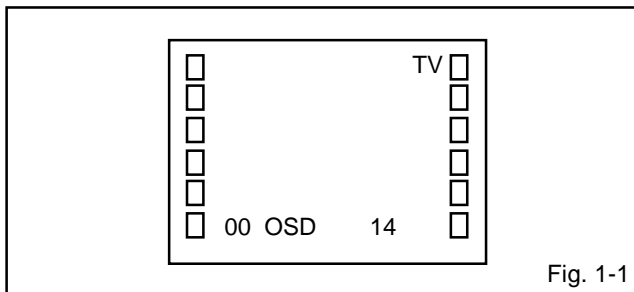

Fig. 1-1
Press the VOL. DOWN button on the set and the Channel button (9) on the remote control for more than 2 seconds to appear the adjustment mode on the screen as shown in Fig. 1-1.
4. Activate the adjustment mode display of Fig. 1-1 and press the channel button (01) on the remote control to select "CUT OFF".
4. Activate the adjustment mode display of Fig. 1-1 and press the channel button (10) on the remote control to select "R.BIAS".
3. Activate the adjustment mode display of **Fig. 1-1** and press the channel button **(06)** on the remote control to select "V. SIZE".
3. Activate the adjustment mode display of **Fig. 1-1** and press the channel button **(05)** on the remote control to select "H.PHASE".
3. Activate the adjustment mode display of **Fig. 1-1** and press the channel button **(17)** on the remote control to select "CONT MAX".
8. Activate the adjustment mode display of **Fig. 1-1** and press the channel button **(17)** on the remote control to select "CONT MAX".
1. Activate the adjustment mode display of **Fig. 1-1**.
3. Activate the adjustment mode display of **Fig. 1-1** and press the channel button **(13)** on the remote control to select "BRI CENT".
4. Activate the adjustment mode display of **Fig. 1-1** and press the channel button **(19)** on the remote control to select "COLOR CENT".